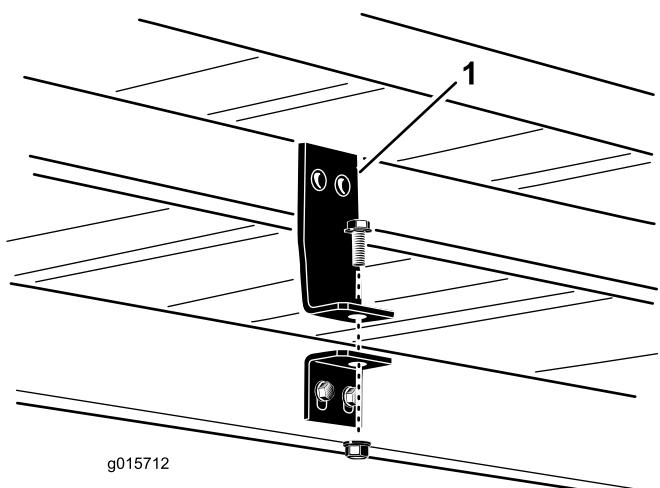

Figure 24
- On each side of the machine, remove the flange head bolt and flange nut securing the bed mounting bracket to the frame bracket (Figure 24).
2. On each side of the machine, secure the bed mounting bracket to the frame bracket with the flange head bolt and flange nut previously removed (Figure 24)